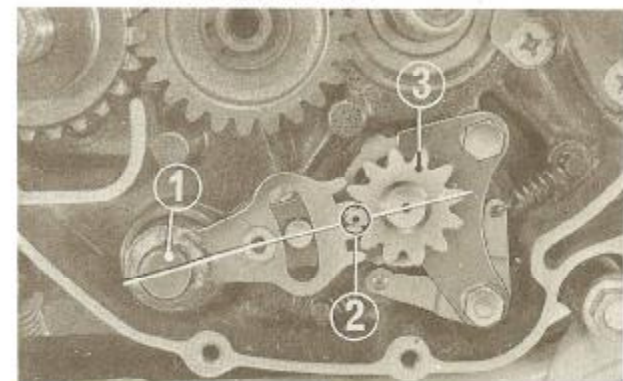

Fig. 3-30 (1) Gearshift spindle (3) Drum shifter
- Place the gearshift drum in the neutral position. With the punch mark on the drum shifter facing in the direction shown in Fig. 3-30, install the drum shifter and two ratchet pawls to the gearshift drum. Install the gearshift spindle by fitting the center notch in the spindle ratchet on the punch marked drum shifter tooth.